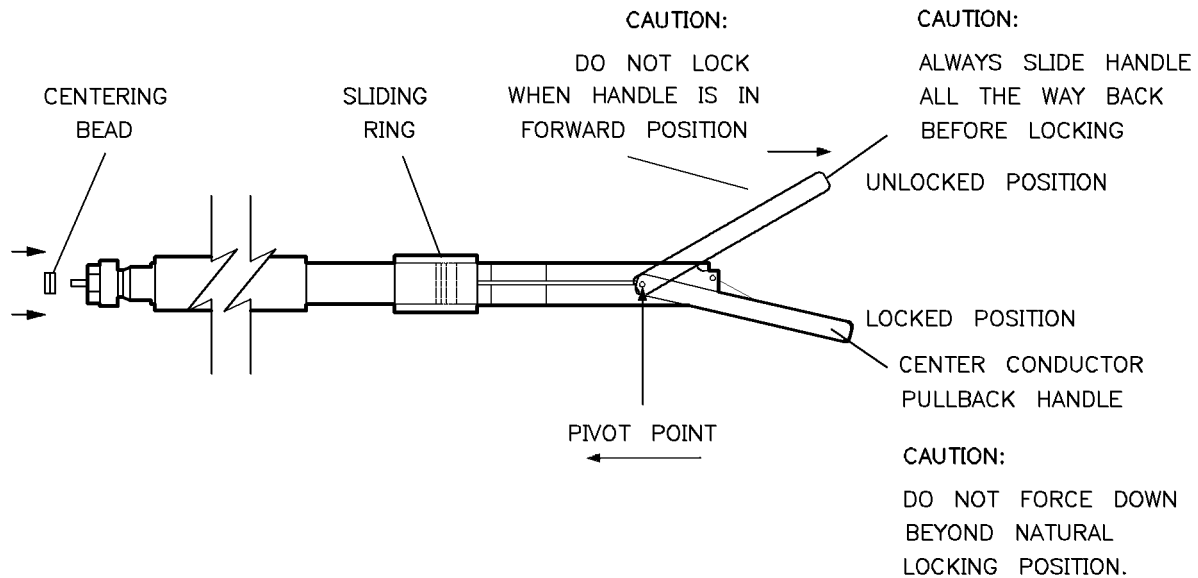

Figure 4-12. Connecting the Sliding Load
1. Release the center conductor pullback mechanism by raising the handle to the unlocked position (see Figure 4-12). Carefully move the handle toward the connector end of the sliding load. The center conductor will extend beyond the end of the conductor.
CAUTION To avoid damage, always move the center conductor pullback handle back as shown in Figure 4-12 before unlocking the handle. Do not press the handle past the locked position.
4. Move the center conductor pullback handle back and then down into its locked position as shown in Figure 4-12.